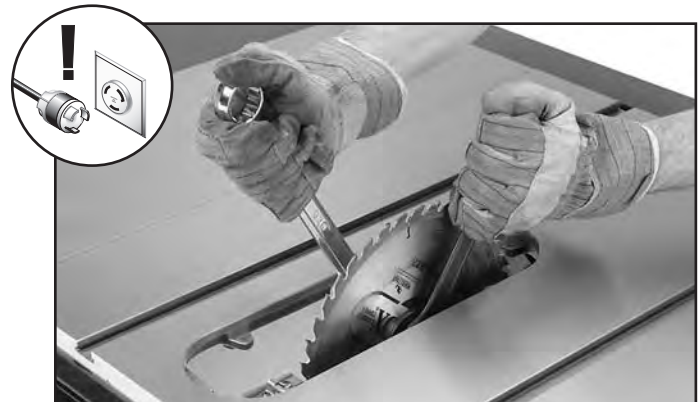

Figure 28. Example of securing blade.
26. Put on a pair of heavy leather gloves and use the included arbor wrenches to tighten the arbor nut (turn clockwise to tighten), as shown in **Figure 28**, then lower the blade all the way down.